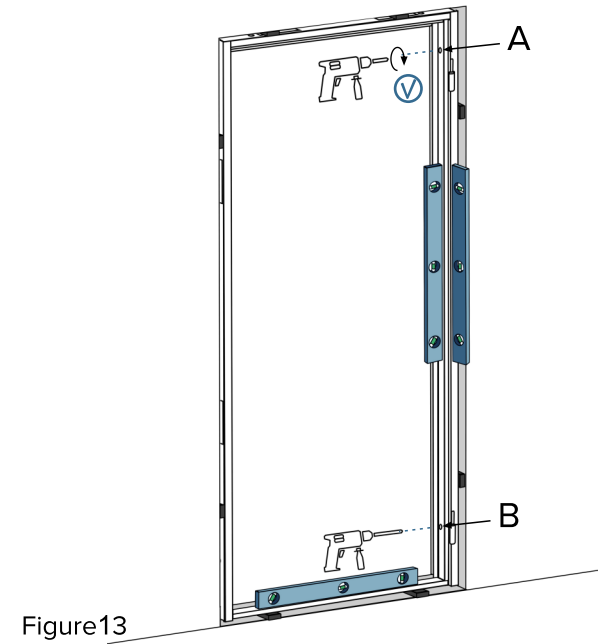

Figure13
- 3.10. Install the lower frame anchor on the hinge (B) side by repeating steps 3.6-3.9 (figure 13).